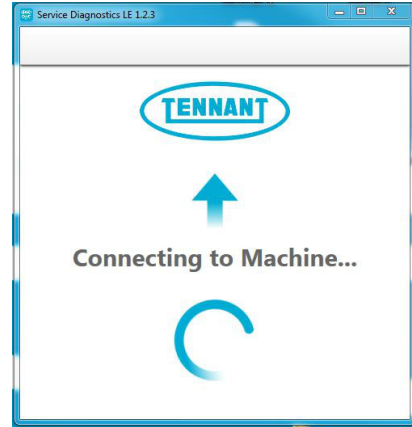

Fig. 41
3. The application software will then connect to the machine (Figure 41). If the application remains on the “Connecting to Machine...” screen for an extended period, cycle key or close and restart the application software. If it still fails to connect, restart the computer.